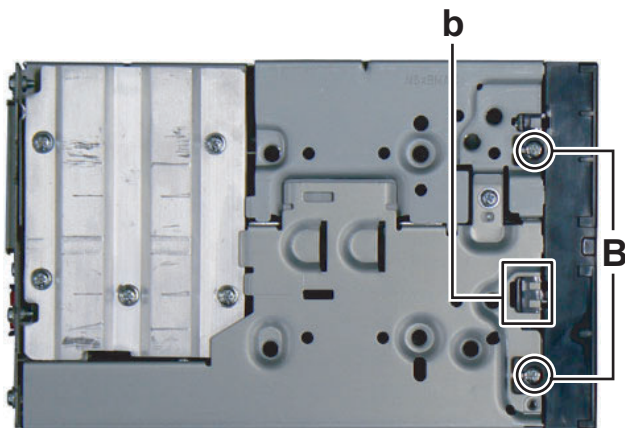

Fig.2
- (3) Remove the four screws **B** attaching the both side of the Front chassis. (See Fig.2)
- (4) Disengage two hooks **b** engaged both side of the Front chassis. (See Fig.2)